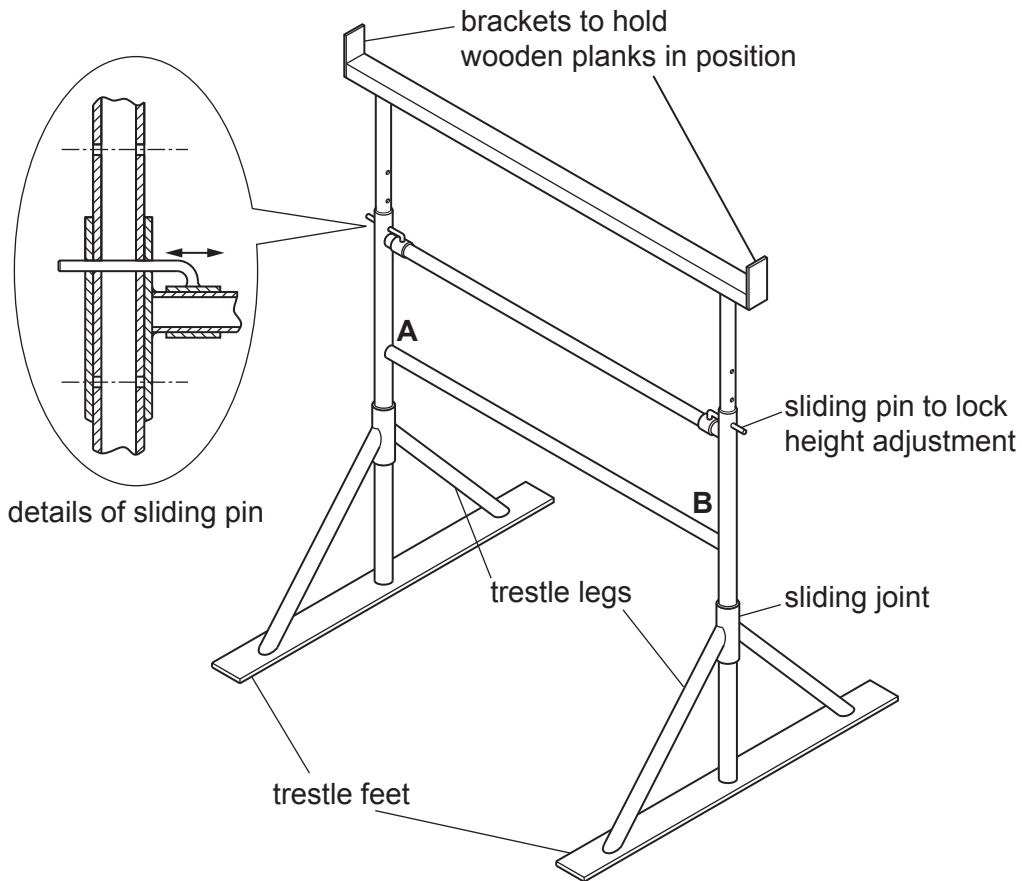

Fig. 10.1
- 10 Fig. 10.1 shows an adjustable steel trestle used by builders to reach heights safely. When in use wooden planks are rested on a pair of trestles.